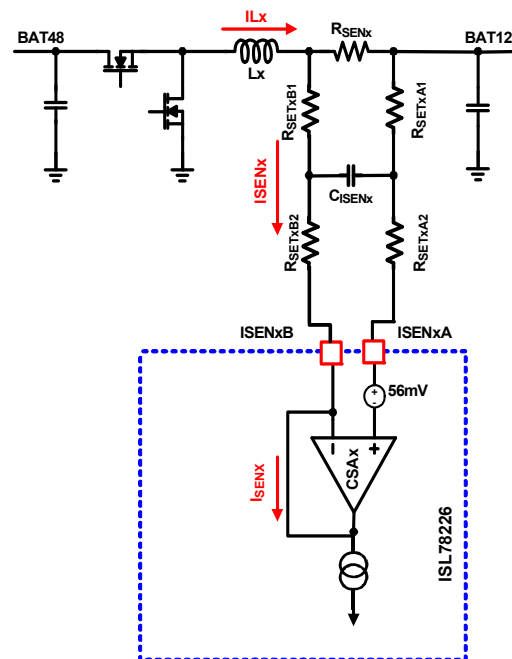

Figure 130. Current-Sensing Block Diagram for Individual Phase I_{SENx}
The ISL78224 peak current control architecture senses the inductor current of each phase continuously for fast response. A sense resistor (shunt) is placed in-series with the power inductor for each phase. The ISL78224 Current-Sense Amplifiers (CSA) continuously sense the respective inductor current (as shown in Figure 130) by sensing the voltage signal across the sense resistor R_{SENx} (where “x” indicates the specific phase number and same note applied throughout this document). The sensed current for each active phase is used for peak current mode control loop, phase current balance, individual phase cycle-by-cycle peak current limiting (OC1), individual phase overcurrent fault protection (OC2), averaged Constant Current Limit (CCL) control, Average Overcurrent Protection (AOCP), Diode Emulation (DE), and Phase Drop/Add control. The internal circuitry shown in Figure 130 represents a single phase and is repeated for each phase.
The recommended configuration of the RC network between the R_{SENx} and ISENxA/ISENB pins is shown in Figure 130. The current gain setting resistor, R_{SETxB} , is R_{SETxB1} plus R_{SETxB2} in Figure 130. That sum should be fixed at $1k\Omega$ for equal boost and buck current indications at IMON.
Renesas recommends that $R_{SETxA} = R_{SETxB}$ and that all four resistors are as equal in value as standard values allow. Insert a capacitor, C_{ISENX} , between them as shown in Figure 130. This forms a symmetric noise filter for the small current-sense signals. The differential filtering time constant equals $(R_{SETxA1} + R_{BIASxB1}) * C_{ISENX}$. This time constant is typically selected in the range of tens of ns depending on the actual noise levels.